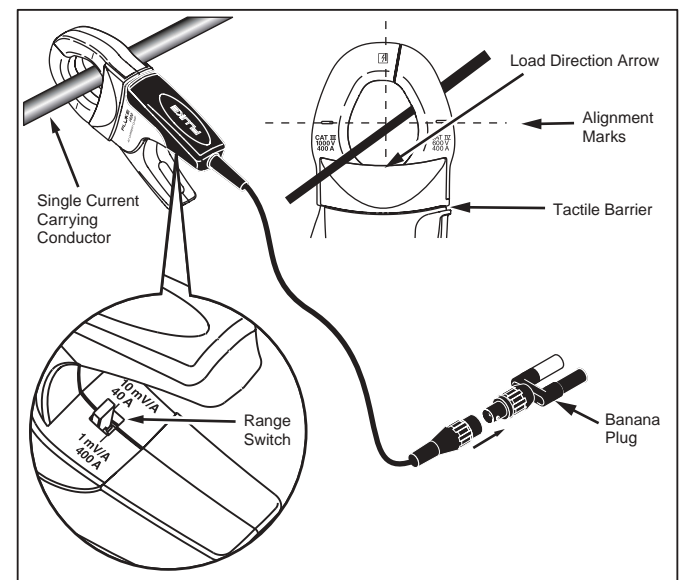

Figure 1. i400s Setup
- Do not hold the Current Clamp anywhere beyond the tactile barrier, see Figure 1.
To use the i400s, refer to "Measurement Considerations" and Figure 1:
To avoid shock or personal injury, keep fingers behind the tactile barrier, see Figure 1.